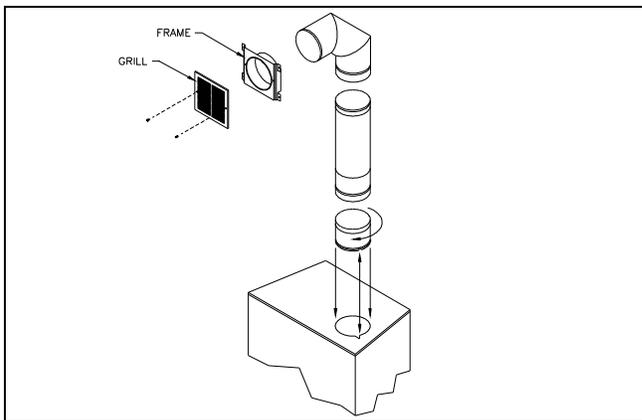

Figure 15
*Double hot air outlet including: (See Fig.15)*
1. Remove the top and bottom plates closing up the 8" dia. holes on top of the fireplace. Then, cut the insulation in order to obtain two 8" dia. free openings. Fix the adaptors on the fireplace openings by turning clockwise (figure 15).